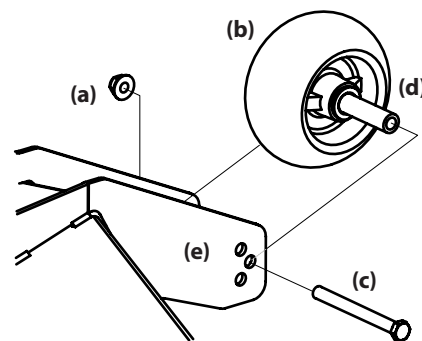

Figure 25
- Remove the lock nut (a) securing one of the front gauge wheel (b) to the deck. Remove the front gauge wheel (b), hex screw (c) and spacer (d) (Figure 25).